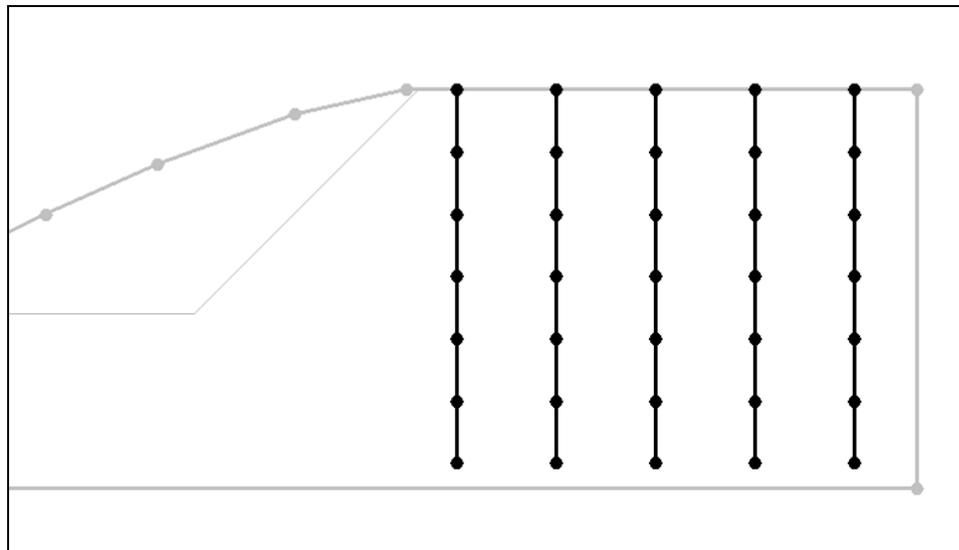

Figure 7. The Piers Represented as Reinforcement Lines.
- Using Figure 7 (below) as a guide, click on the points to connect them with arcs to create the slope.
At this point you should see something like Figure 7 below.